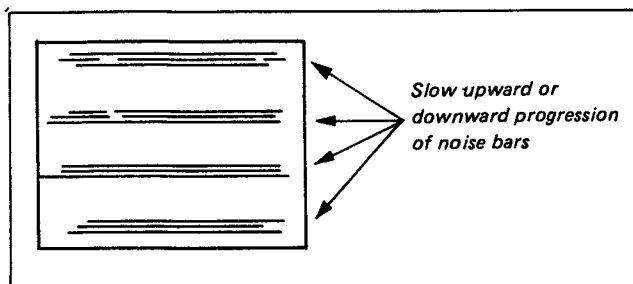

Fig. 5-10B. PICTURE SEARCH, capstan DC bias adjustment
- i) Set up the picture search (forward) mode and adjust with RV308 so that the progression of noise bars becomes as slow as possible. (See Fig. 5-10B.)